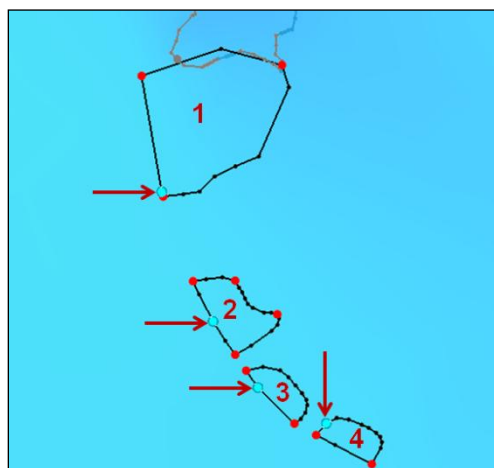

Figure 4 Original points to be converted to vertices
7. Using the **Select Feature Point**  tool, use the *Shift* key to select the four original nodes. (Figure 4).
1. Using the **Select Feature Polygon**  tool, double-click on the northern polygon (*polygon 1* in Figure 4) to open the *EWN Polygon Properties* dialog.